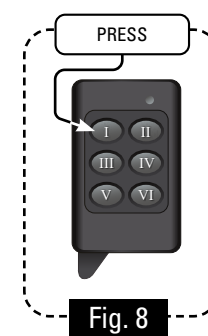

Fig. 8
3. Press the top left\* button on the first key-fob to be programmed for 1 second (Fig. 8). The red light will stop flashing momentarily and then start flashing again.